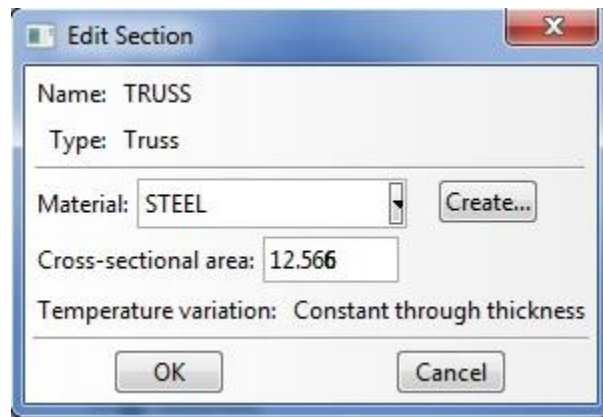

Figure 8. Edit Section Dialog Box (TRUSS)
- Enter **12.566** for the **Cross-Sectional area** (This value accounts for a 2-in. radius rod, i.e. πr^2). The Edit section dialog box should look identical to that in Figure 8.